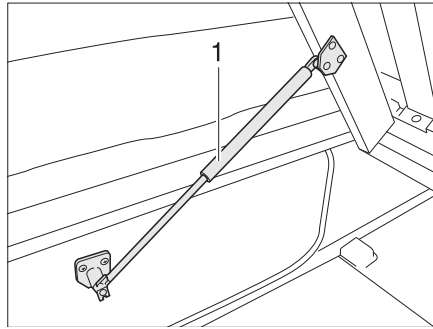

Fig. 158 Fixed bed
- Lift slatted frame. The gas-pressure springs (Fig. 158,1) hold the slatted frame open.